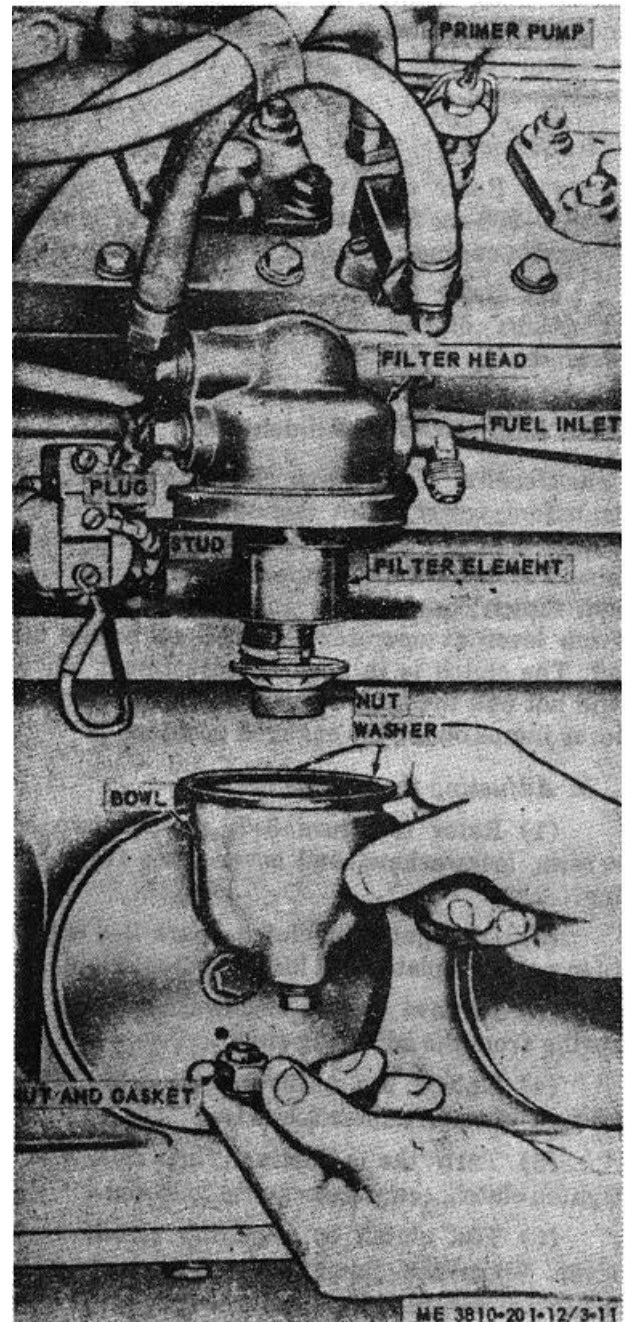

Figure 3-10. Primary fuel filter service (model 687C-18-ES).
(1) Remove nut and gasket (fig. 3-10) which secures bowl to filter head and remove bowl and washer.
(2) Remove nut that secures filter element to stud in filter head, then remove filter element.
(3) Clean all parts in an approved cleaning solvent and dry thoroughly with compressed air or lint free cloth. Be sure that screen of filter element is free of all sludge or foreign matter.
(4) Visually inspect all parts for cracks, holes, or excessive wear. Repair by replacing defective parts.
(5) Install filter element on stud and secure with nut.
(6) Place washer on bowl, position bowl